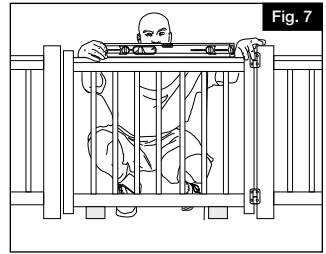

Fig. 7
- a. Position gate at desired height on post. Horizontal rails on gate should be even with horizontal rails on railing (Fig. 7).